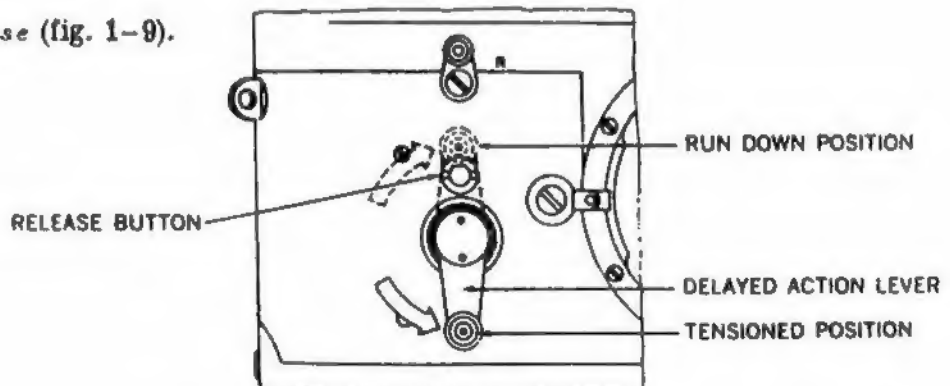

Figure 1-9. Delayed Action Lever and Release.
d. *Delayed Action Release (fig. 1-9).*